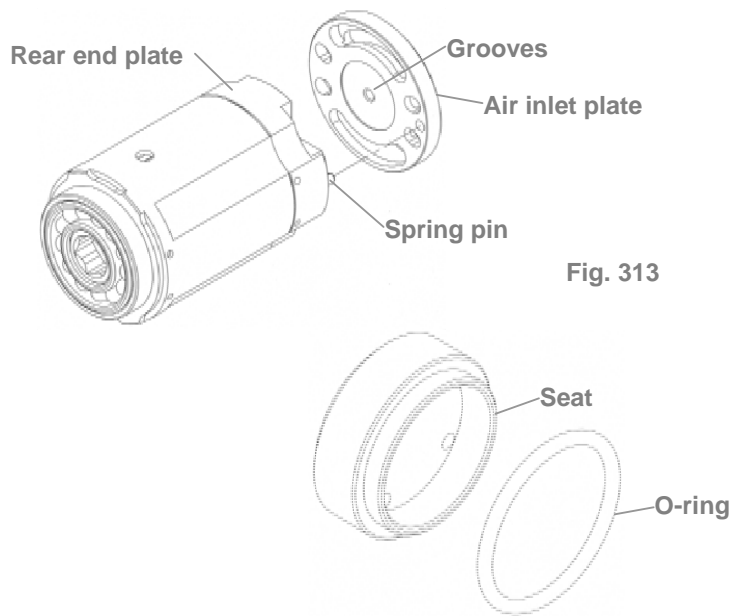

Fig. 313
- 1.2 Make the groove of the air inlet plate toward the rear end plate and assemble. Make sure the holes aim at the pin while assembling, Fig. 313.